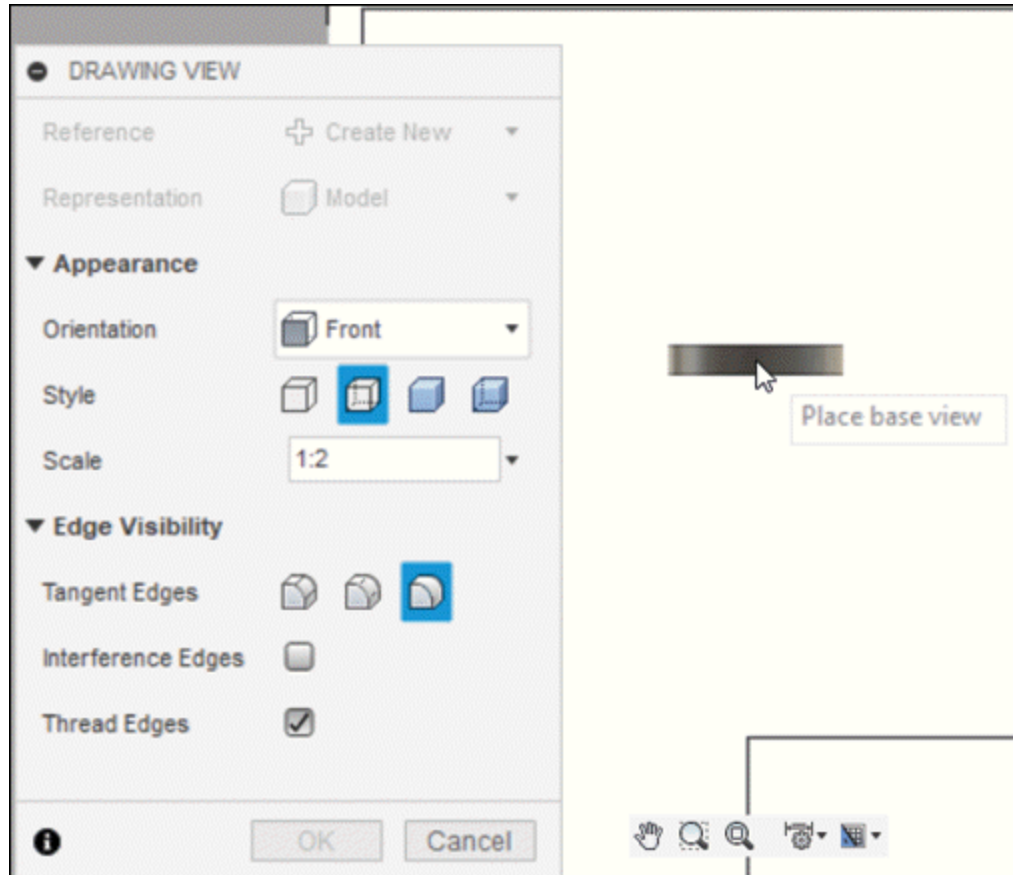

Figure-143. Preview of drawing view
- Make sure **ASME** is selected in the **Standard** drop-down of **CREATE DRAWING** dialog box and click on the **OK** button. The **DRAWING VIEW** dialog box will be displayed with preview of drawing view; refer to Figure-143.